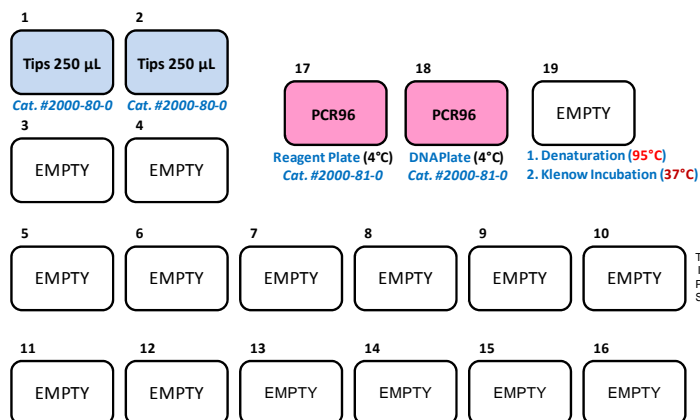

Figure 1. Deck layout for 12 labeling reactions.
- Ensure that all labware is placed correctly on the ArrayPrep® System (Figure 1). Remove tips from bottom two rows of tip racks in positions 1 & 2 (Figure 2). Place a container for used tips next to position 10 (Figure 3).